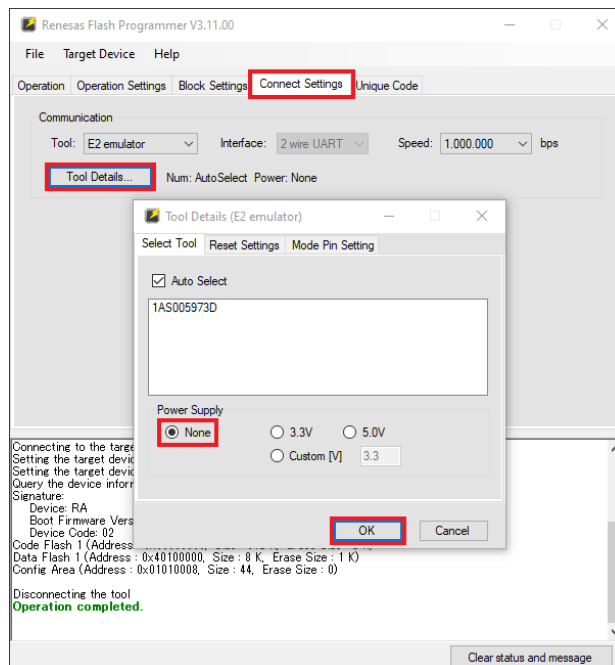

Figure 7. Connection Settings in Renesas Flash Programmer
- Select the **Connect Settings** tab and click on the **Tool Details...** button (Figure 7). In the pop-up window make sure that option **None** is selected in the **Power Supply** section. Click on the **OK** button to close the pop-up window.